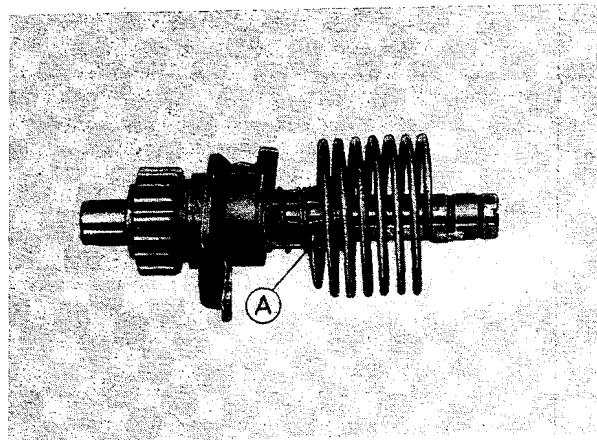

Fig. 81. Complete kick-starter shaft
Finally, mount the kick-starter spring (10). The end of the spring must be pushed into hole (A) of the kick-starter shaft up to the stop. Fig 81 shows the kick-starter shaft ready for being mounted.